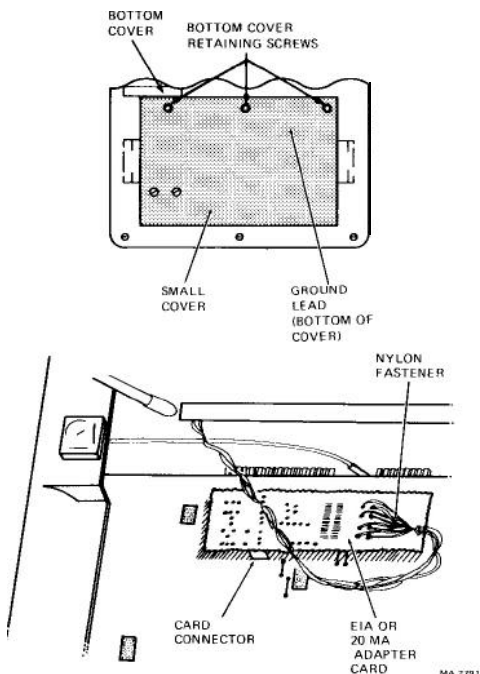

Figure 3-2 Removing and Replacing the EIA or 20 mA Adapter Card
3.1 REMOVING AND REPLACING THE EIA OR 20 mA ADAPTER CARD (Figure 3-2)